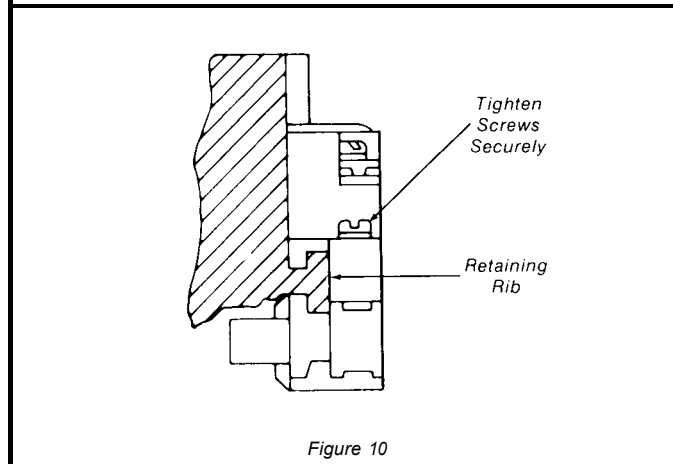

Figure 10
4. Securely tighten two screws to fasten the two sections of the auxiliary contact together and to the overload relay housing retaining ribs. (Refer to Figure 10.)